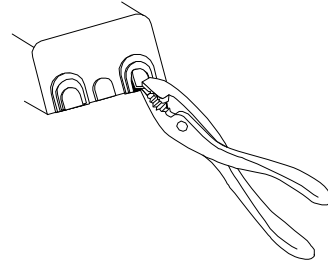

Figure 9: Removing Wire Entry Knockouts
7. Make wiring connections (refer to *Wiring* section). Remove the appropriate knockouts on the terminal cover for wire entry. See Figure 9.